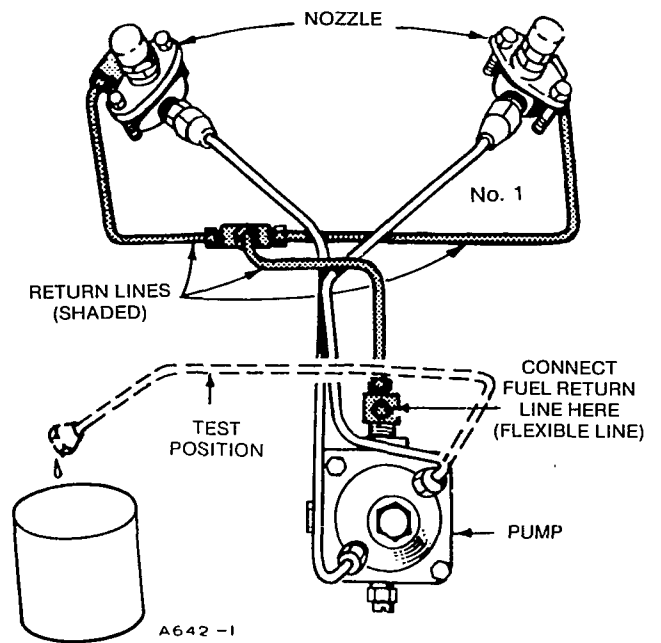
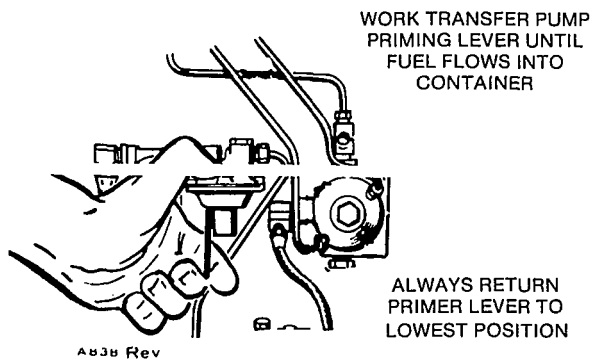

FIGURE 15. FUEL LINE TO INJECTORS
FIGURE 17. OPERATING TRANSFER PUMP MANUALLY
3. Remove No. 1 injection line. Install No. 1 injection line with top end of line in pump outlet. Place an open container under open end of No. 1 injection line (Figure 15).
6. Manually operate fuel transfer pump (Figure 17) until fuel, free of air, flows from open end of No. 1 injection line into container (Figure 15).